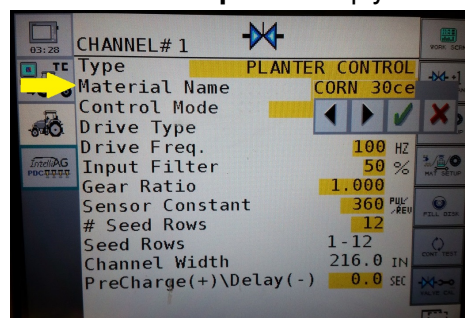

Figure 28
Step 5. Select **Material Name**. (Figure 28)